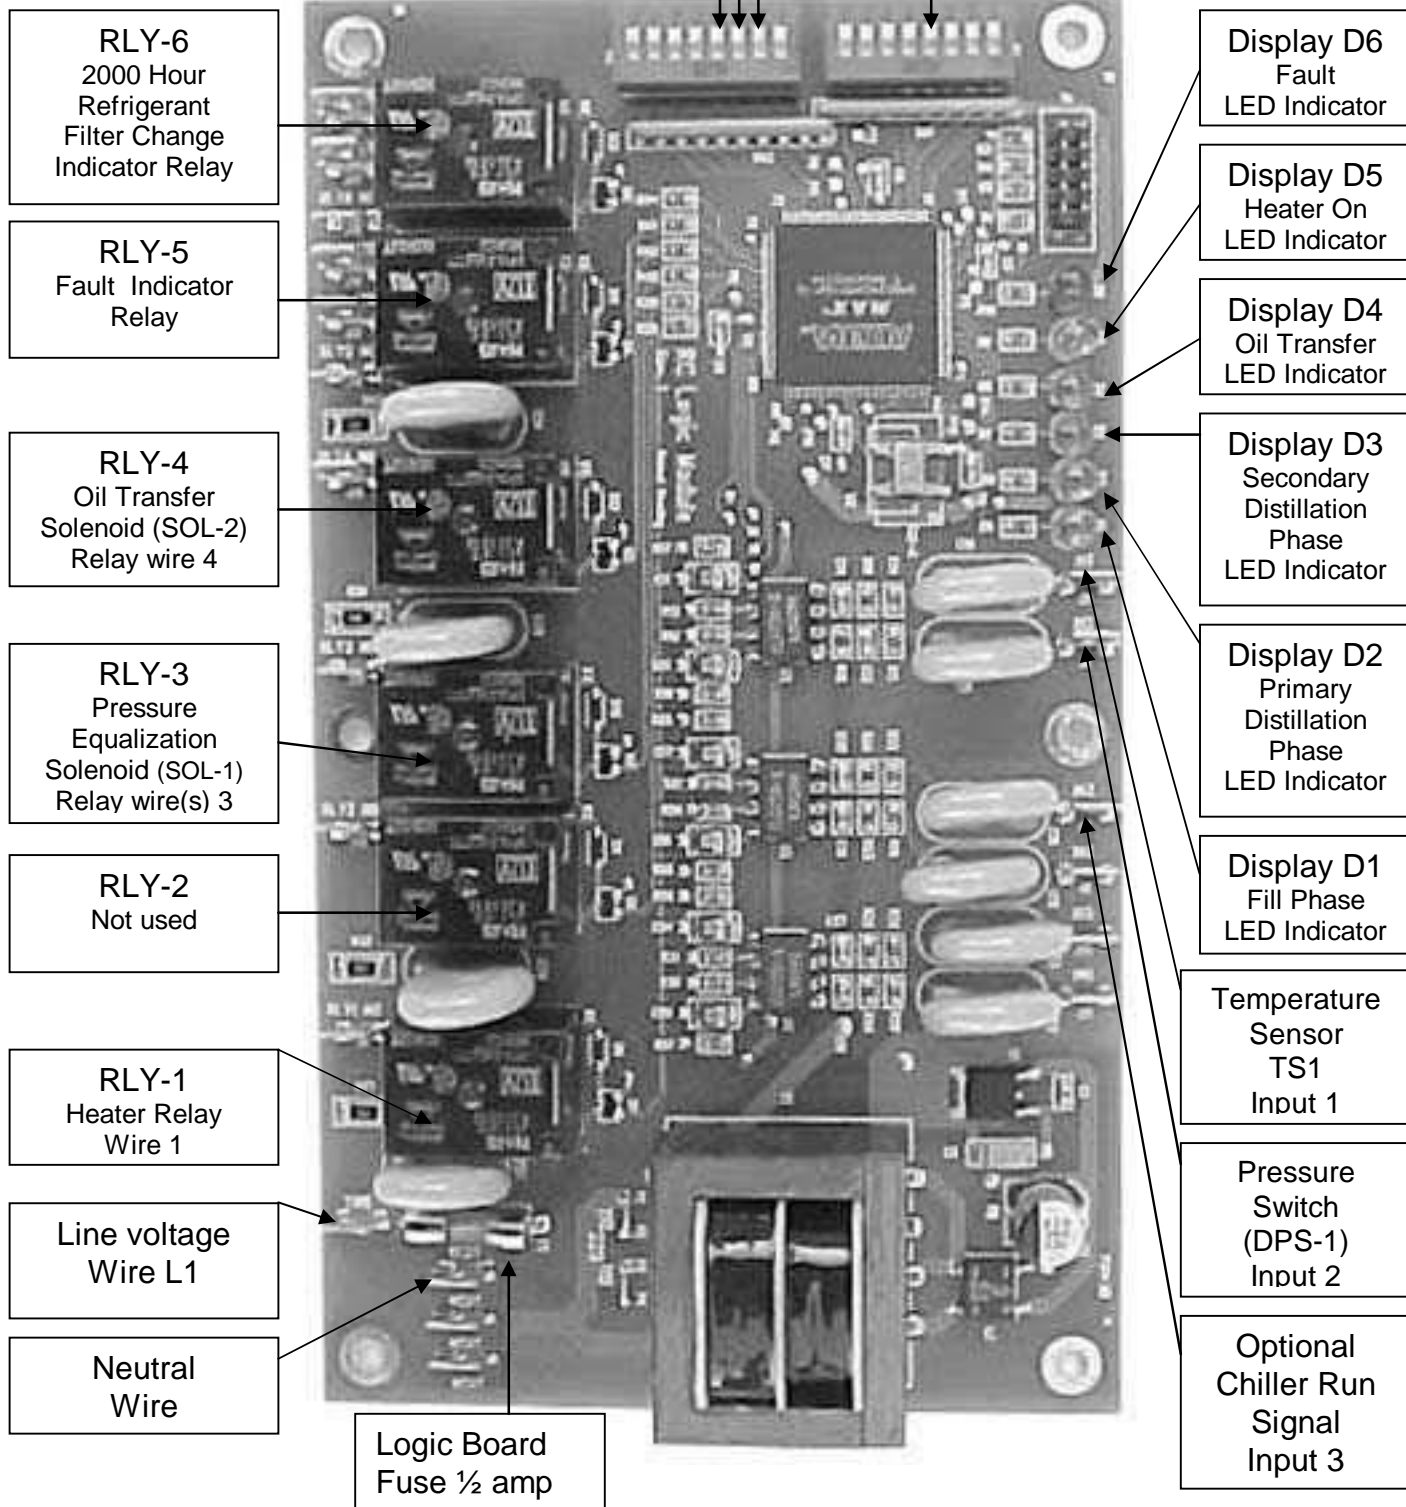

Figure 7. – Solid State Logic Circuit Board
14. The **Green LED** indicator **D1** (see Figure 7, page 33) should now be **blinking**, indicating the purger is in Fill Phase 1 and the Distillation Tank is being filled by gravity with refrigerant / oil mixture from the Chiller.
(See Figure 6, page 31, Figure 7, page 33 and Figure 8, pages 34 and 35.)
(See Fig. 7, Page 33 for further information.)
Dip Switch (SW1) & (SW2) During normal operation All Dip Switches on the OAM Purger MUST be in the off position. During diagnostics and leak testing procedures certain Dip Switches on Switch SW2 are placed in the on position. If the “Chiller Run Signal Option” is utilized, Dip Switch 4 on Switch SW1 will be in the on position. (See Fig. 7, page 33.)
(See Figure 7, on page 33)
Dip Switch (SW1) & (SW2) During normal operation All Dip Switches on the OAM Purger MUST be in the off position. During diagnostics and leak testing procedures certain Dip Switches on Switch SW2 are placed in the on position. If the “Chiller Run Signal Option” is utilized Dip Switch 4 on Switch SW1 will be in the on position. (See Fig. 7, page 33.)
5. Remove cover from Electrical Panel, on **Switch SW2** flip **Dip Switch 3** to the **ON** position. ***(This procedure allows the Oil Return Solenoid Valve ONLY to energize when power is reapplied.) (See Figure 7, on page 33 for location of SW2.)***
13. Flip **SW2**, **dip switch 3** back to the **OFF** position. ***(See Figure 7, on page 33 for location of SW2.)***
WARNING: Be sure DIP Switches 2, 3 and 4 on Switch SW2 are returned to the **OFF** position when finished. If any of these DIP Switches are left in the ON position, the OAM Purger will not function. (See Fig. 7, page 33 for location of Switch SW2.)
WARNING: Be sure DIP Switches 2 and 3 on SW2 are returned to the **OFF** position when finished. If either of these DIP Switches are left in the ON position, the OAM Purger will not function. (See Fig. 7, page 33 for location of Switch SW2.)